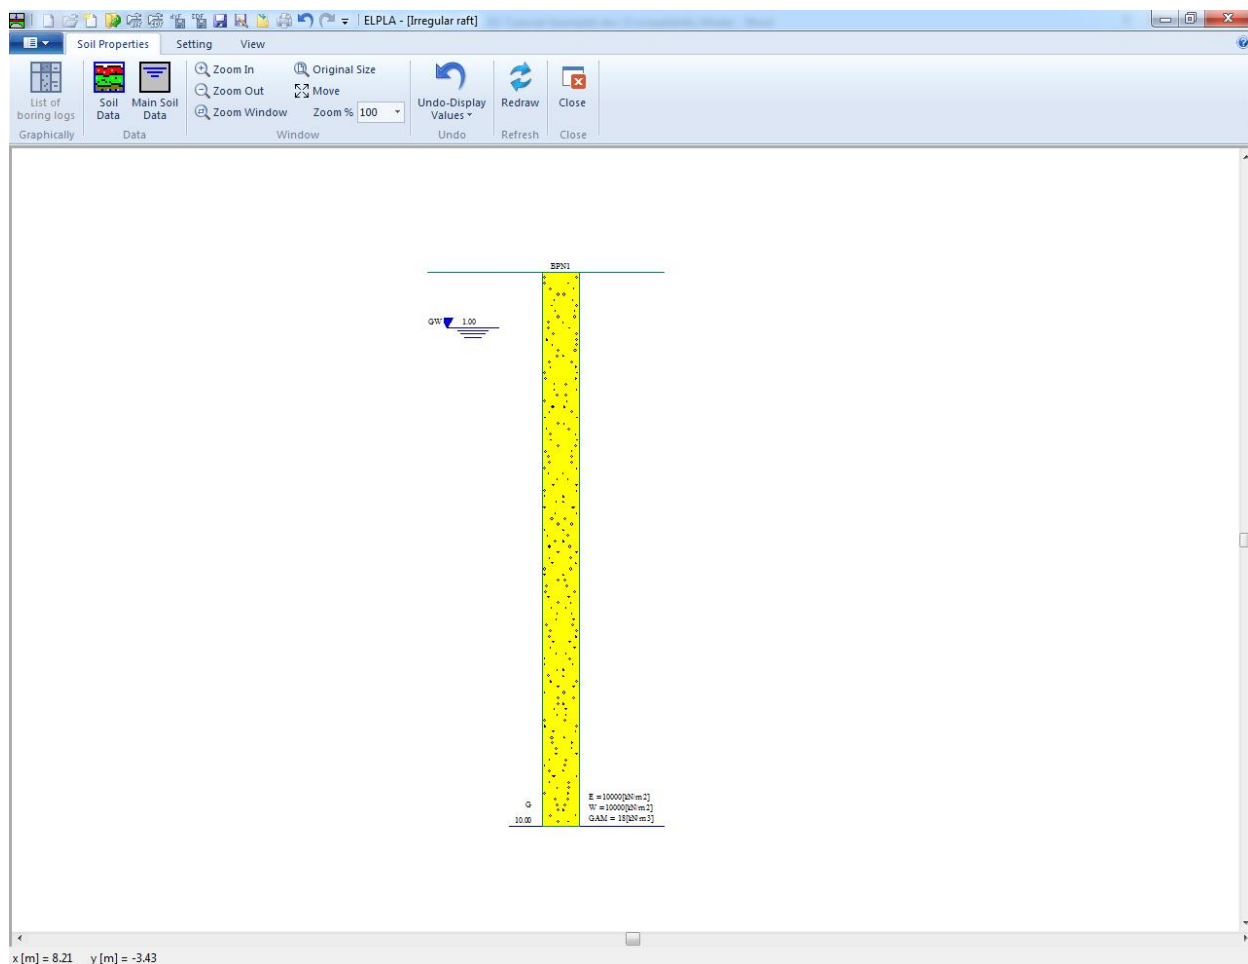
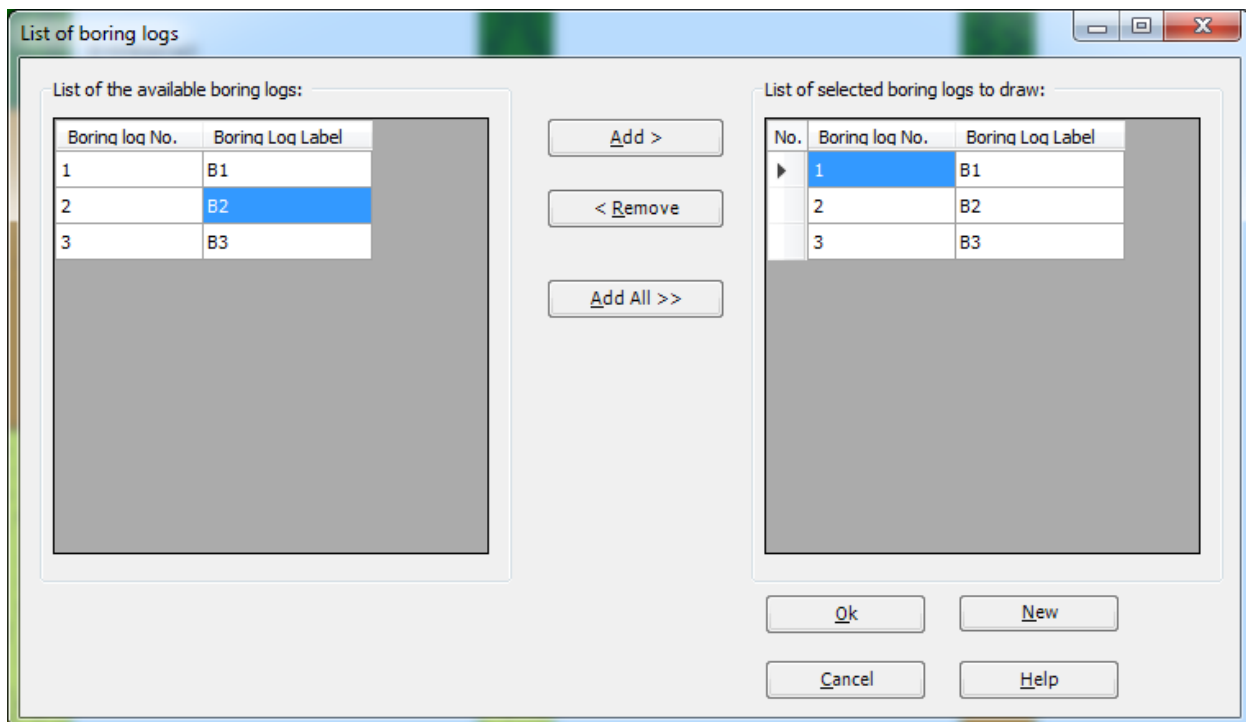
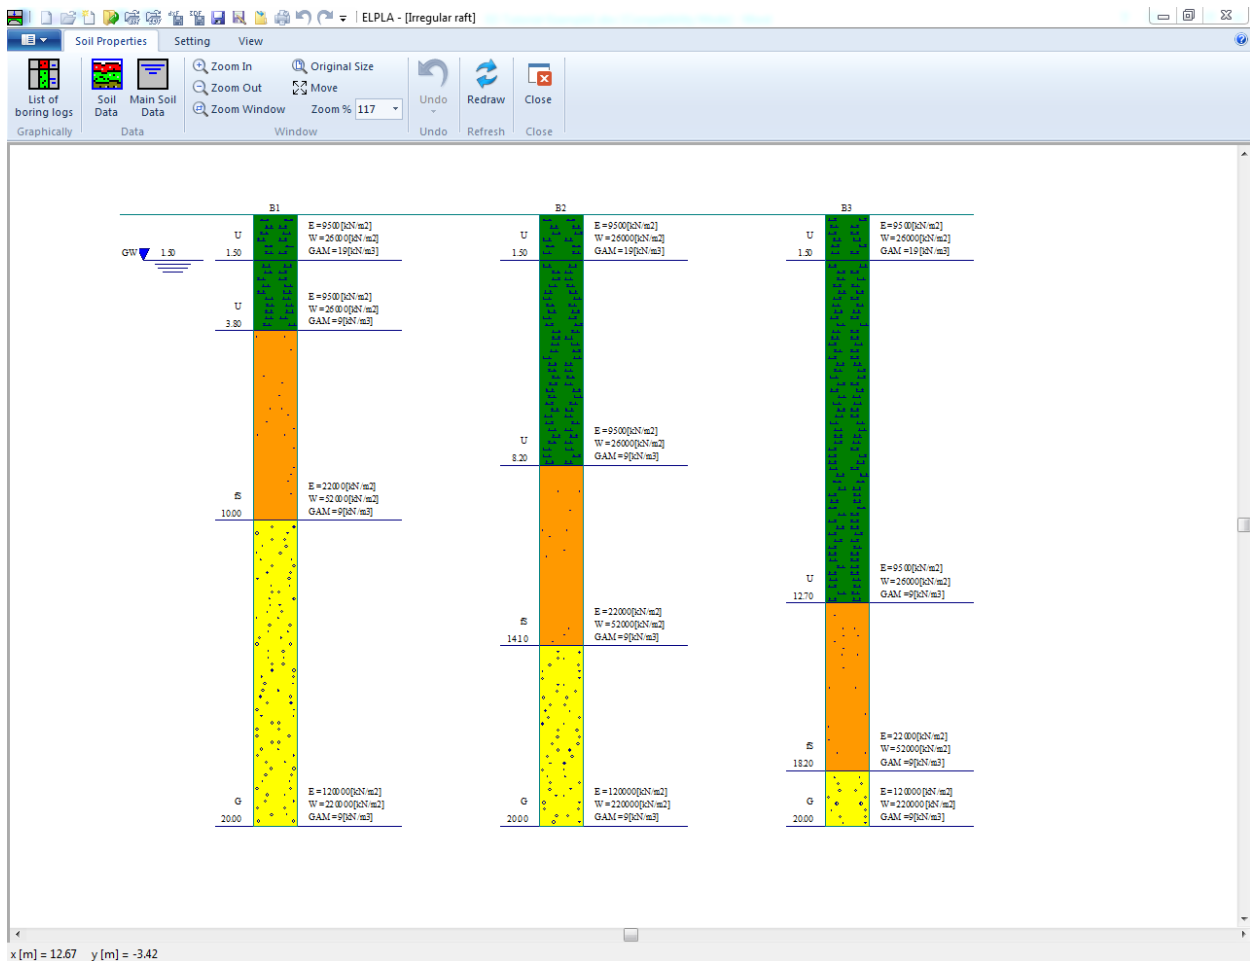
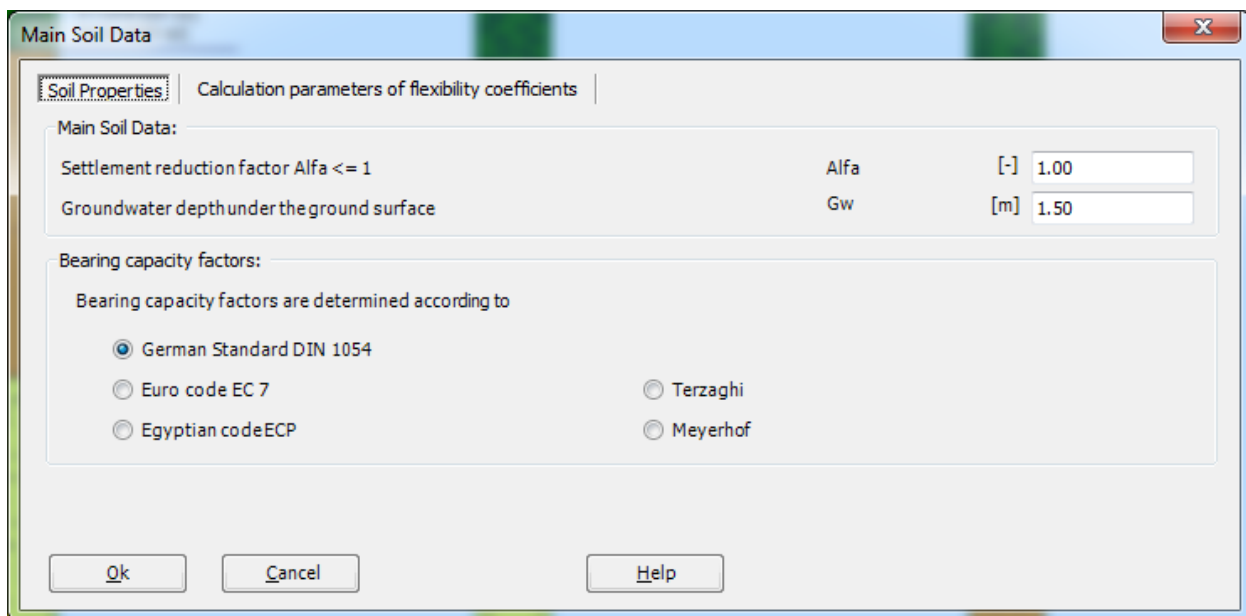

Figure 1.16 "Soil Properties" window with a default-boring log
Figure 1.19 "List of boring logs" list box
Figure 1.20 Boring logs
Figure 1.21 "Main Soil Data" dialog box
To define the soil properties, choose "Soil Properties" command from "Data" Tab. The following "Soil Properties" Window in Figure 1.16 appears with a default-boring log.
In Figure 1.16, soil properties are defined through the "Soil Properties" Tab, which contains the following two commands:
- Choose "Soil Data" command from "Data" menu in the window of Figure 1.16.
To display all boring logs or specified boring logs, choose "List of boring logs" command from "Soil Properties" Tab in Figure 1.16. The following list box in Figure 1.19 appears.
- Select the boring log that is required to be displayed from the list of the available boring logs in Figure 1.19
- Click "OK" button in Figure 1.19. The selected boring logs appear to control or modify the boring data graphically, Figure 1.20
To enter the main soil data for all layers, choose "Main Soil Data" command from "Data" menu in Figure 1.20. The following dialog box in Figure 1.21 appears with default main soil data. The main soil data for the current example, which are required to be defined, are the settlement reduction factor α [-] and the groundwater depth under the ground surface G_w [m]. Any other data corresponding to main soil data are not required in this example. Therefore, the user can take these data from the default soil properties.
In the dialog box of Figure 1.21, enter the settlement reduction factor α [-] and the groundwater depth under the ground surface G_w [m]. Then click "OK" button.
- Choose "Save" command from "File" menu in Figure 1.20 to save the data of boring logs
- Choose "Close" command from "File" menu in Figure 1.20 to close "Soil properties Window" and return to ELPLA main window.